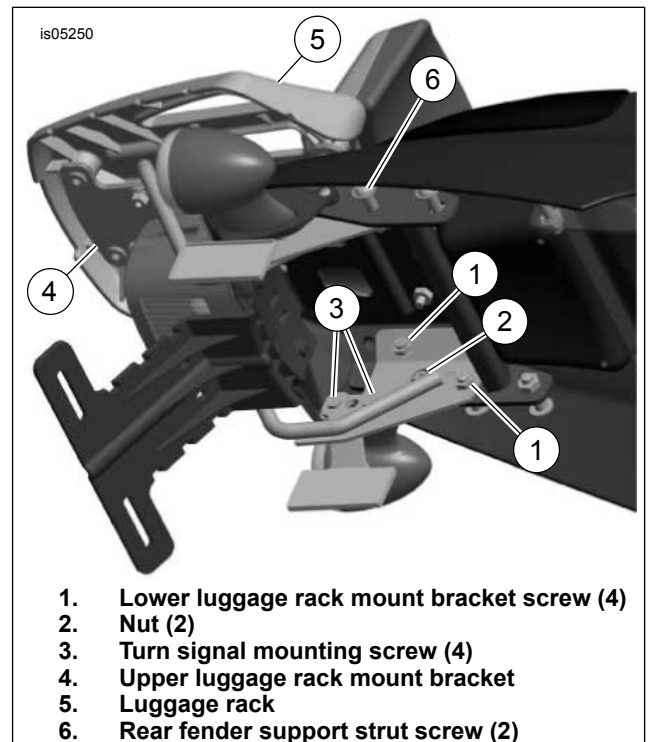
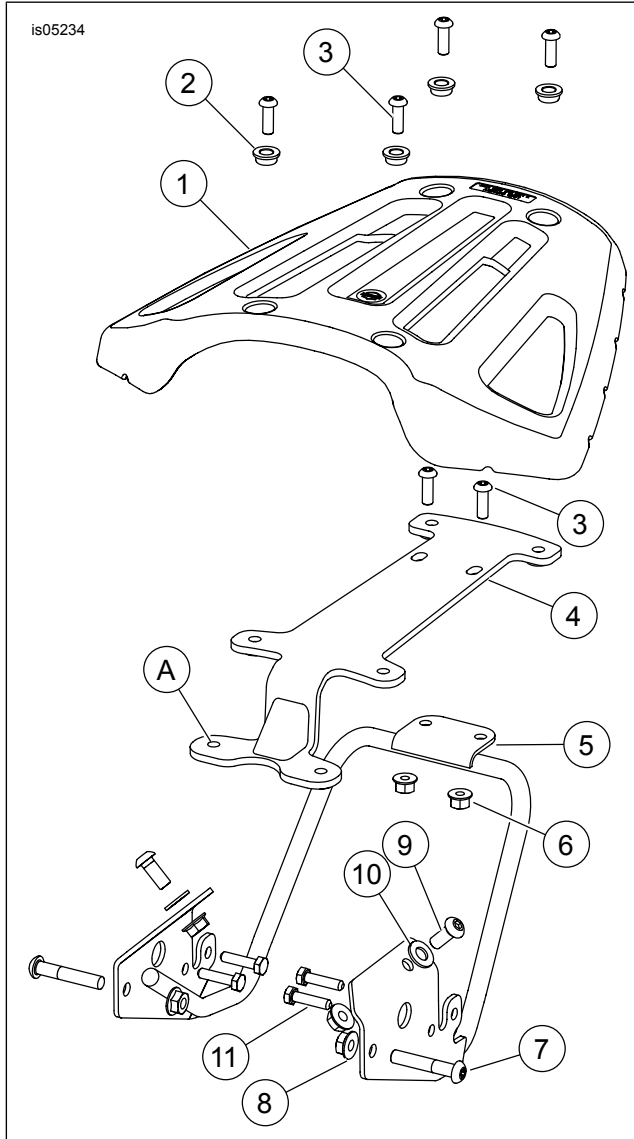

Figure 1. Luggage Rack Installation
Figure 2. Service Parts: XR1200 Luggage Rack
See Figure 2 and Table 1.
3. See Figure 1. Remove the turn signal mounting screws (3) and discard. Allow the turn signal to hang by the harness until lower bracket installation.
4. Remove the rear fender support strut screws (6) and discard.
1. See Figure 2. Install lower luggage rack mount bracket with screws (9), flat washers (10) and nuts (8). Bracket will mount around nut (Item 2 in Figure 1). Tighten to 26 N·m (19 ft-lbs).
2. Install screws (7) and nuts (8) through the rear fender support strut and the lower luggage rack mount bracket. Tighten to 26 N·m (19 ft-lbs).
3. Route the turn signal wire harnesses through the groove in the bracket. Install new turn signal mounting screws (11). Tighten screws to 4–7 N·m (3–5 ft-lbs).
5. Install upper luggage rack mount bracket (4) with original equipment seat base screws in the lower holes (A). Do not tighten at this time.